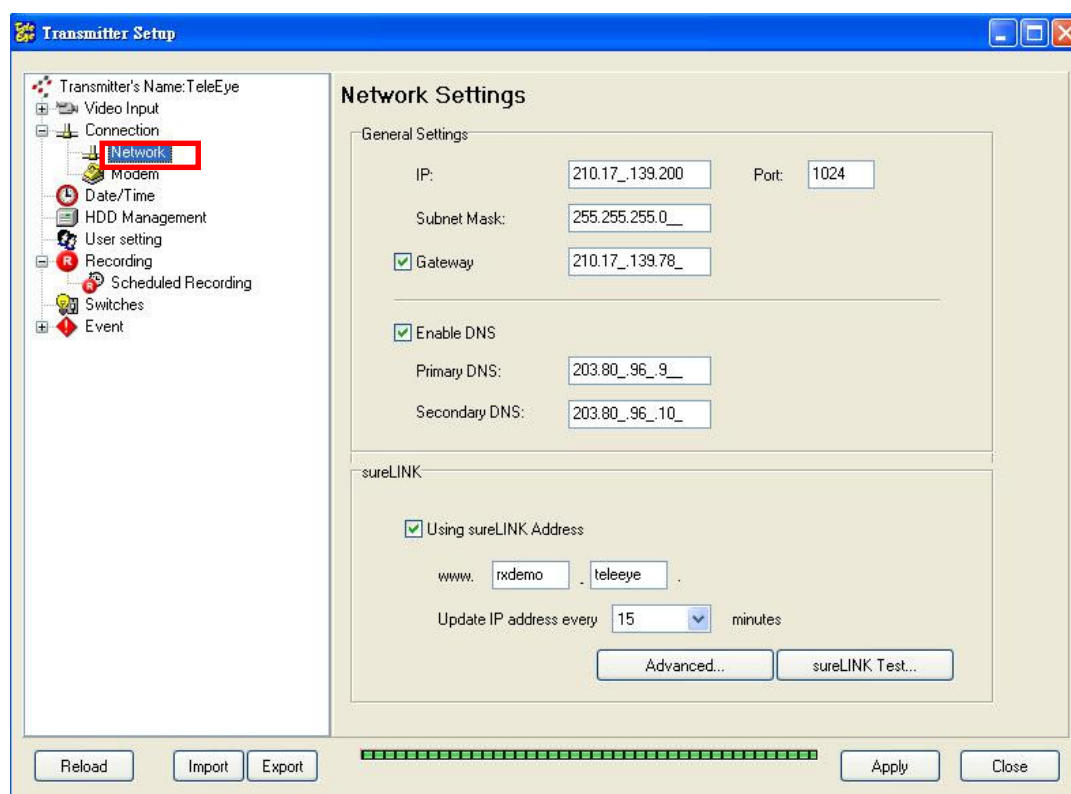

Fig 8.1.4c
Step 1 : In {Transmitter Setup} panel, click [Connection] → [Network] as Fig 8.1.4c.